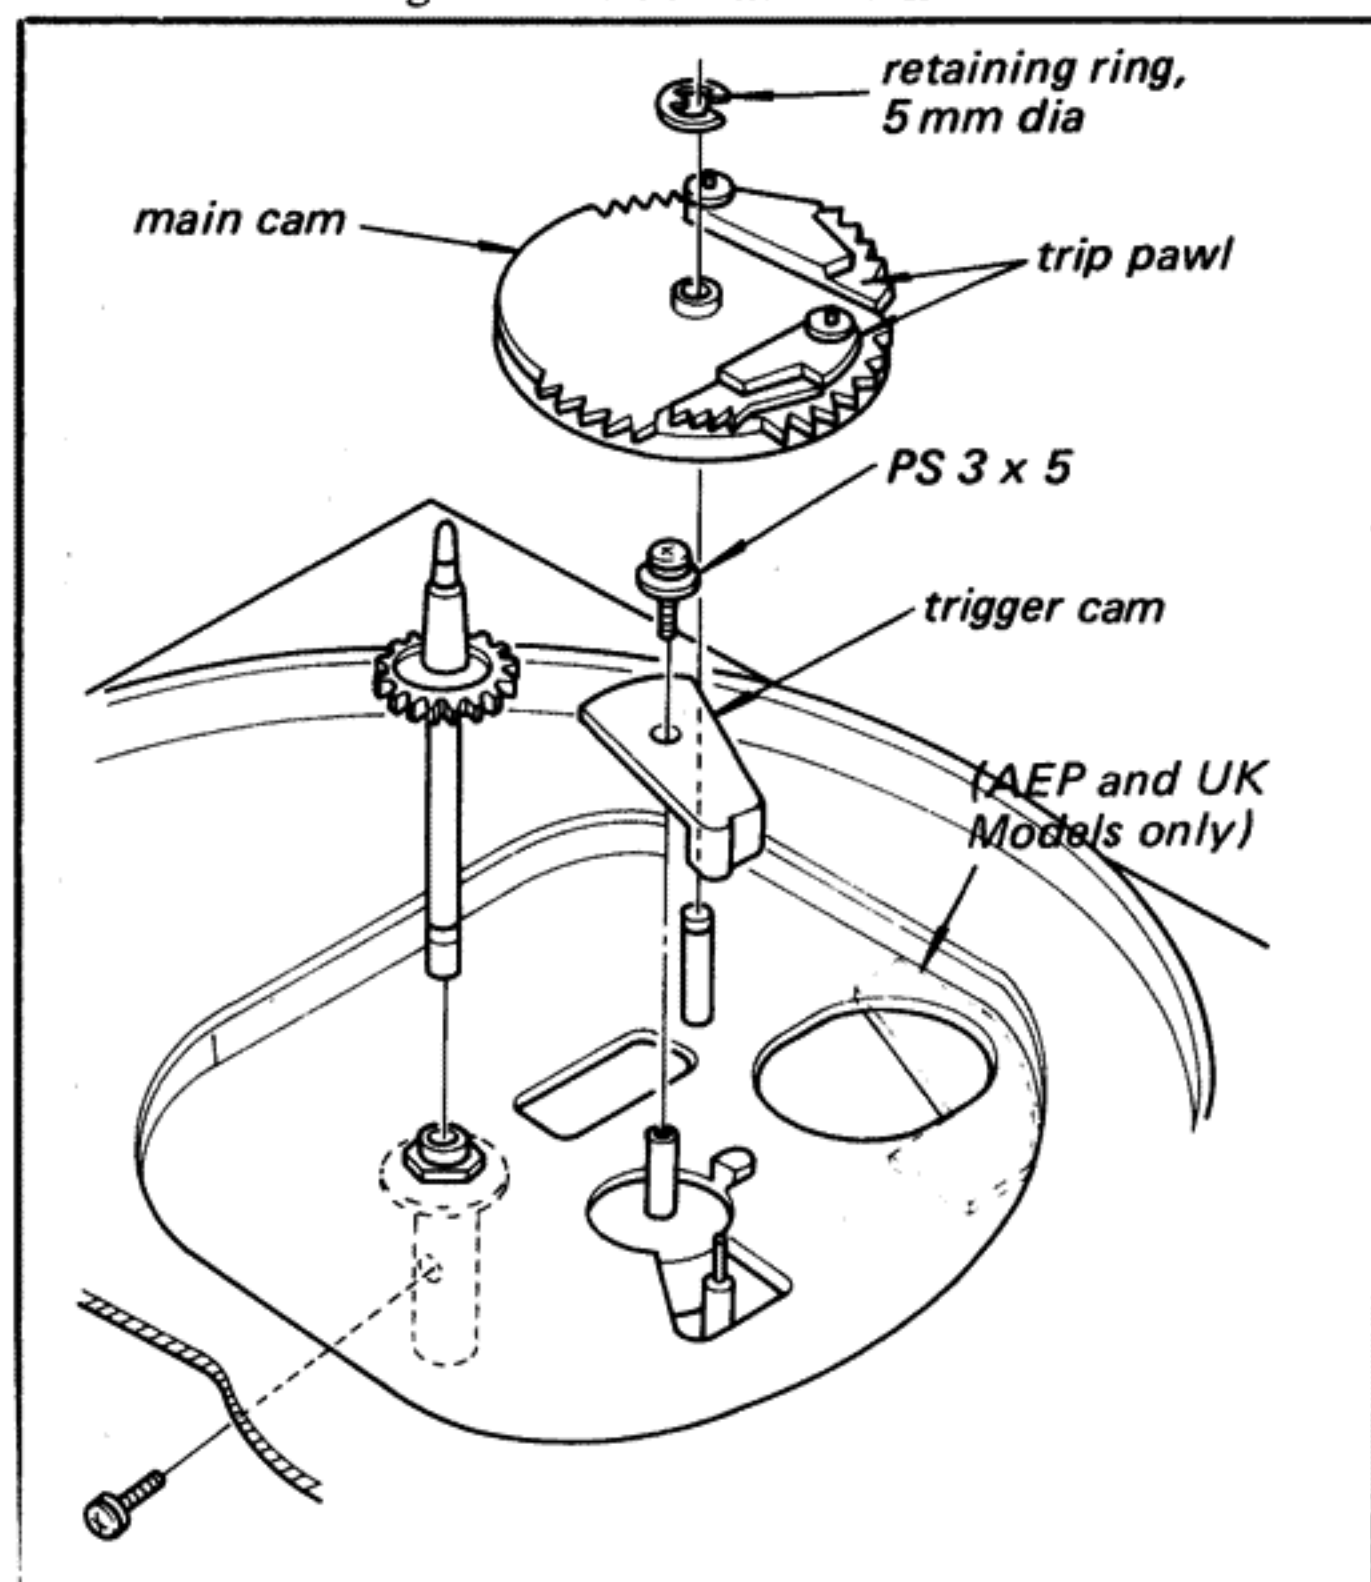

Fig. 2-5. Main cam replacement
2. Remove the trigger cam by removing the screw (PSW 3 x 5) shown in Fig. 2-5.
3. Pull out the main cam by removing the retaining ring shown in Fig. 2-5.